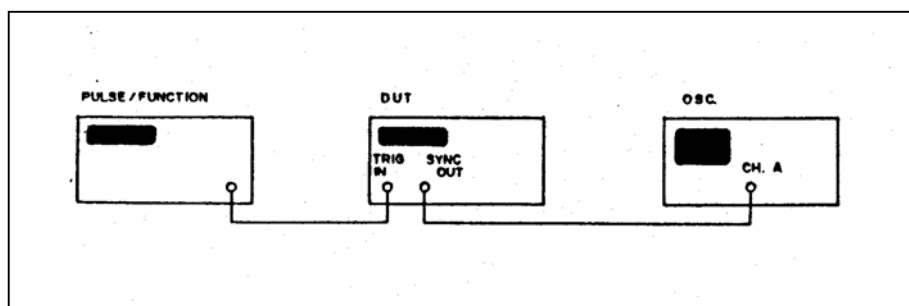

Figure 7-1. Trigger Input Sensitivity Adjustment.
2. Connect the test instruments as described in Figure 7-1.